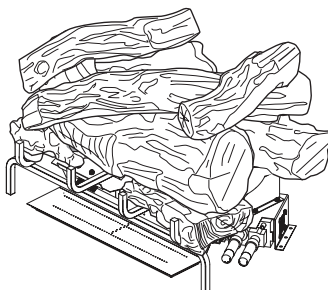

Figure 26 - Final Assembly
8. Final Assembly is shown in Figure 26. See Figure 27 on page 19 for additional views.